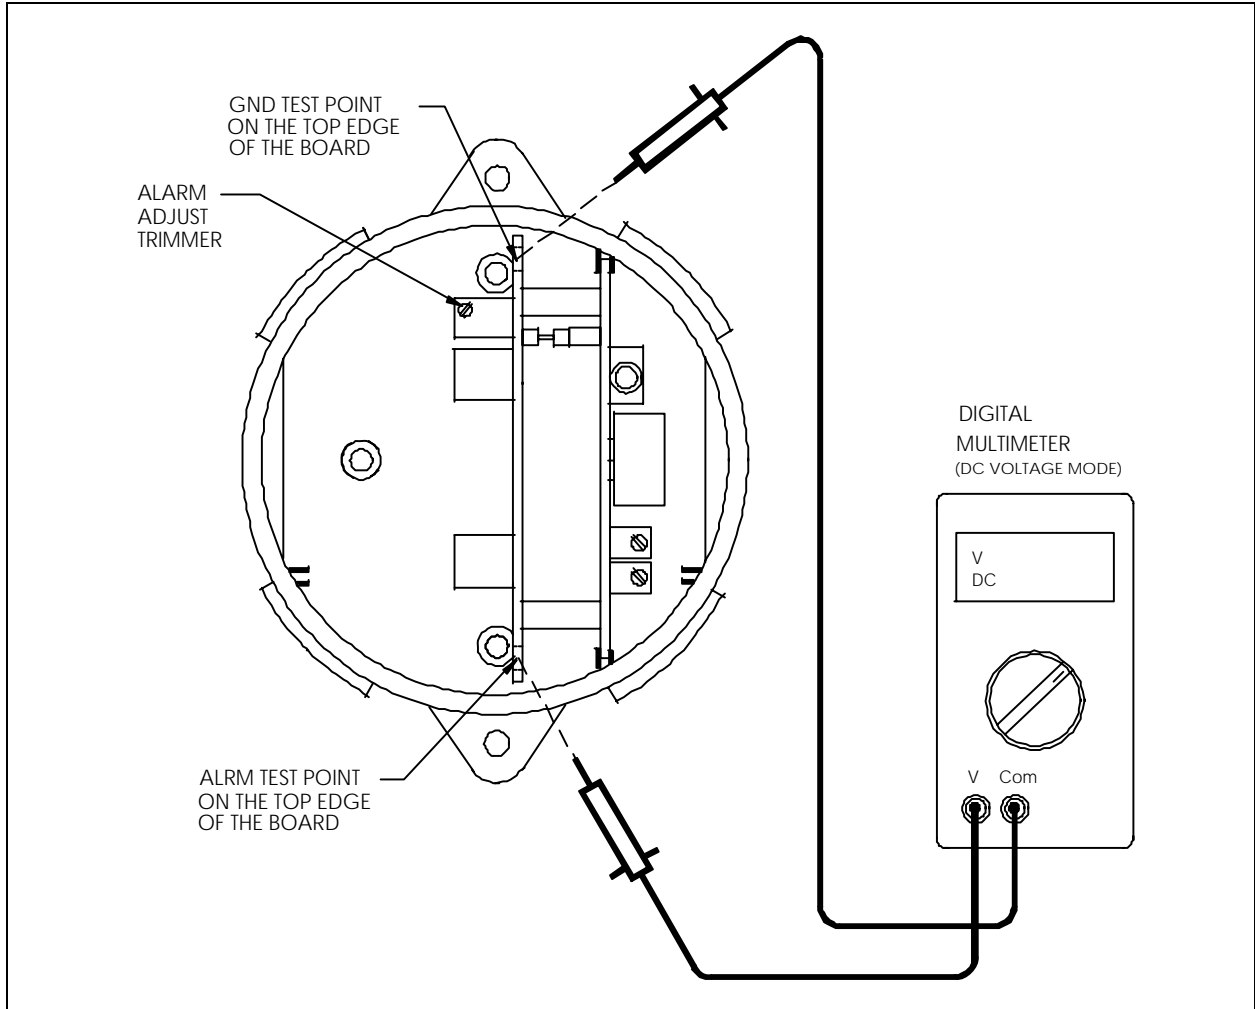

Figure 5-3 Alarm Relay Trip Point Procedure
3. Connect multi-meter to relay, power board as shown in Figure 5-3.